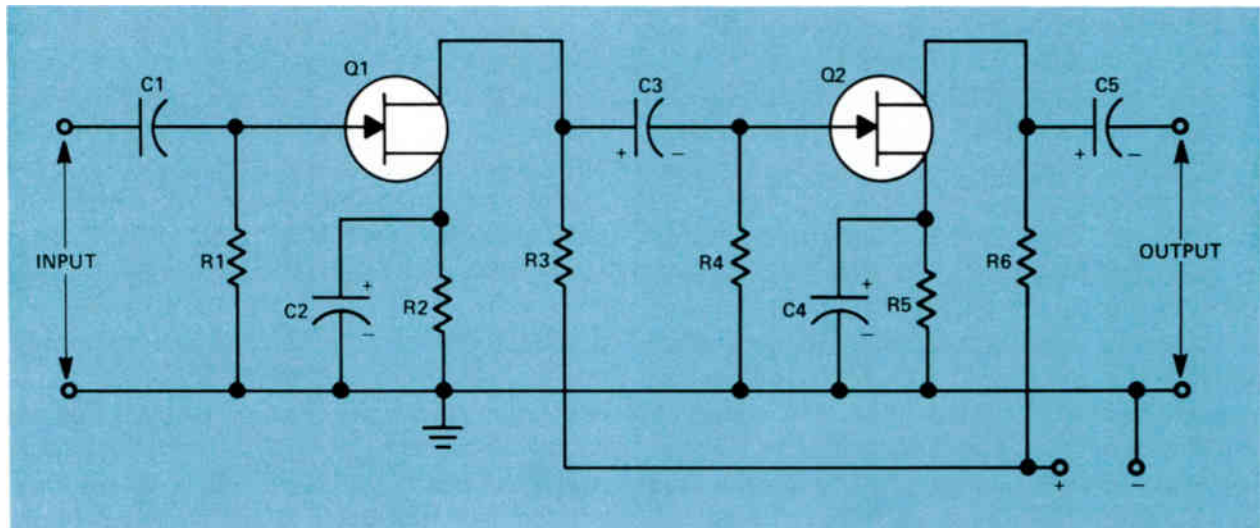

Figure 3. A two-stage RC coupled amplifier using JFETs.
Field-effect transistors are not used as frequently as bipolar transistors in low-frequency voltage amplifiers, but there is no reason why they can't be. A typical two-stage RC coupled amplifier using n-channel FETs is shown in Fig.3.
- 3 In the circuit shown in Fig.3, what is the purpose of R5?